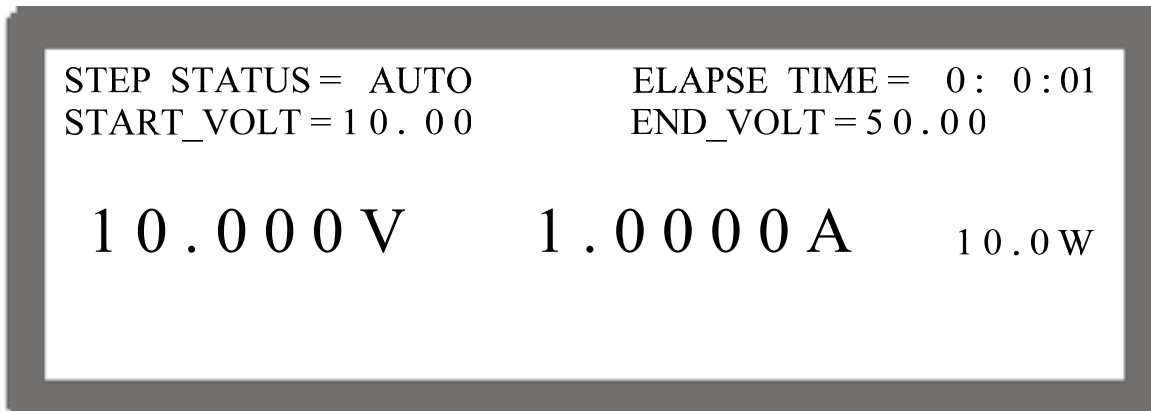

Figure 4-23
2. Press “” one more time to confirm the execution. It will skip to MAIN PAGE during execution as Figure 4-23 shows. To quit the execution, press “” can return to the MAIN PAGE window at standby.
① NOTICE